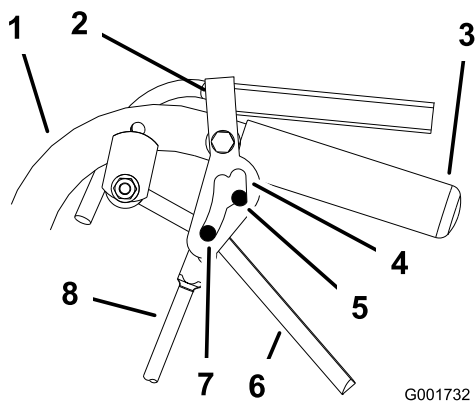

Figure 43
- Release and engage the neutral lock, checking that the tire does not rotate (Figure 43). Continue this process until the tire does not rotate.